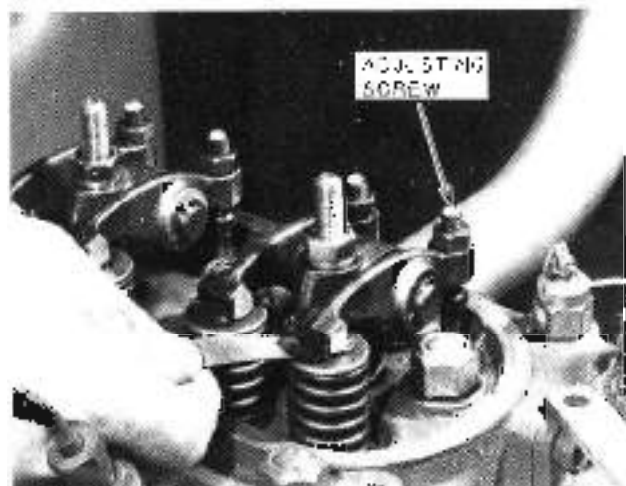

Figure 52 — Checking Valve Clearance
2. With the engine idling, check the clearance on each valve with a feeler gauge (Figure 52).
4. If the valve mechanism never uses a new piece of the feeler gauge is damaged (Figure 52). The cover fully valve.